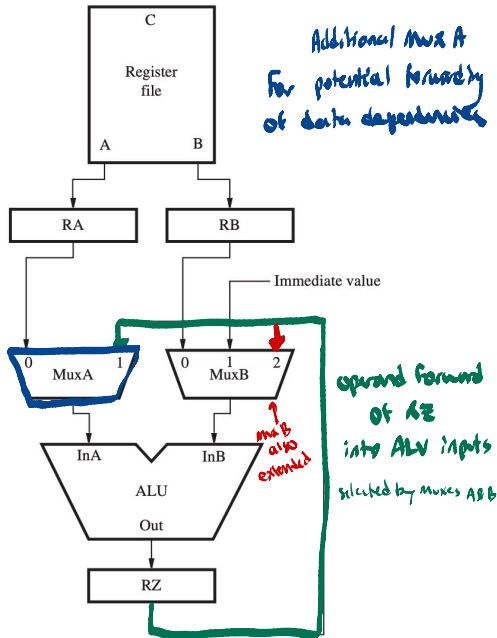

Figure 6.5 Modification of the datapath of Figure 5.8 to support data forwarding from register RZ to the ALU inputs.
6.6 [M] The forwarding path in Figure 6.5 allows the contents of register RZ to be used directly in an ALU operation. The result of that operation is stored in register RZ, replacing its previous contents. This problem involves tracing the contents of register RZ over multiple cycles. Consider the two instructions
[M] Additional control logic is required in the pipeline to forward the value of register RZ as shown in Figure 6.5. What specific conditions must this additional logic check to determine the settings of the multiplexers feeding the ALU inputs in the Compute stage of the pipeline?